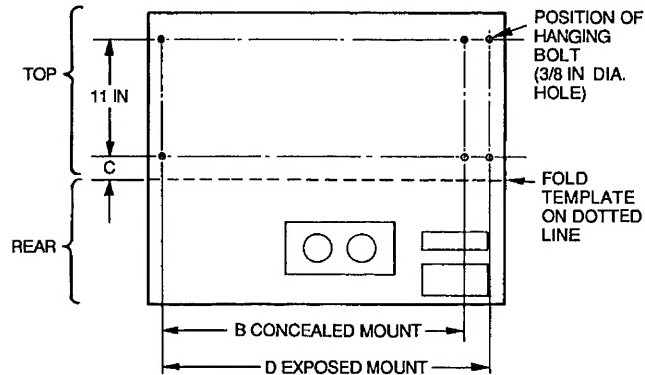

**Fig. 6 — 619C Clearances**
Refer to Fig. 6 for clearances and dimensions. Use mounting template included inside box to locate mounting bolt holes, piping holes, electrical connections, and accessory outdoor-air intake, if used.
2. Determine installation position, paying particular attention to piping lengths and wiring connections, clearances, etc. See Fig. 3 for connection locations, Fig. 6 for clearances, and Fig. 7 and 8 for bolt locations.